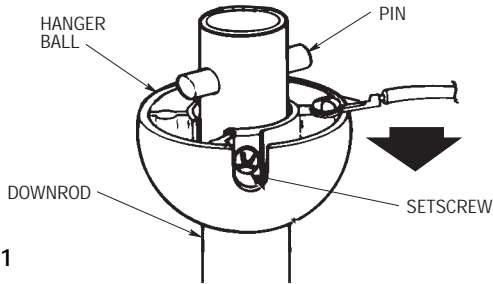

Figure 1
1. Remove the hanger ball by loosening the setscrew in the hanger ball until the ball falls freely down the downrod (Figure 1). Remove the pin from the downrod, then remove the hanger ball. Retain the pin and hanger ball for reinstallation in Step 10.